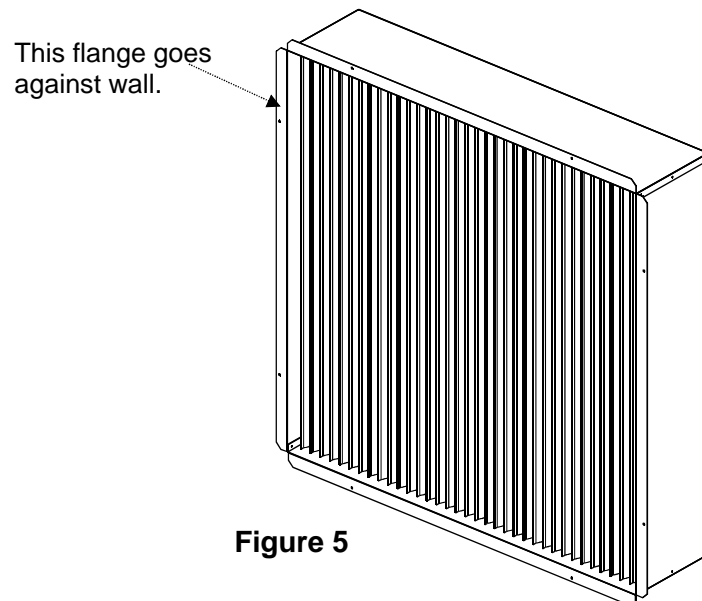

Figure 5
2. Place the Light Trap Air Inlet through the opening and slide the Inlet through the opening until the flange is against the wall (**Figure 5**).